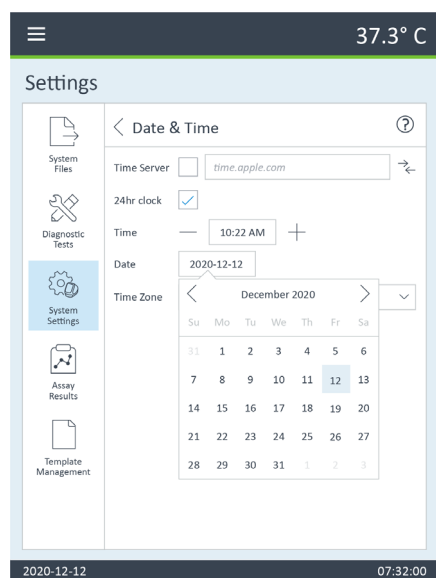

Figure 11. Configure date and time for the XF HS Mini Analyzer
- 2 Select the **Date and Time** settings tab. (Figure 11)